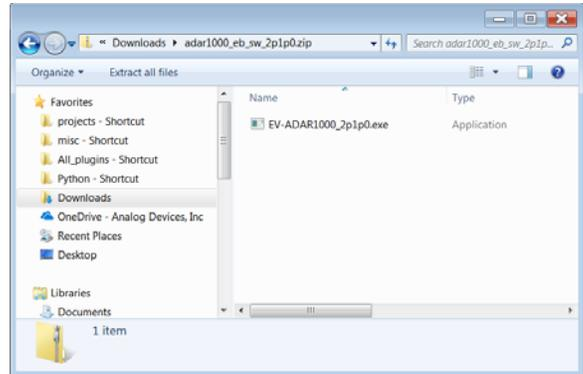

Figure 5. Unpacking Software Zip File
3. The **File Manager** shows the content of the zip file, as shown in Figure 5.